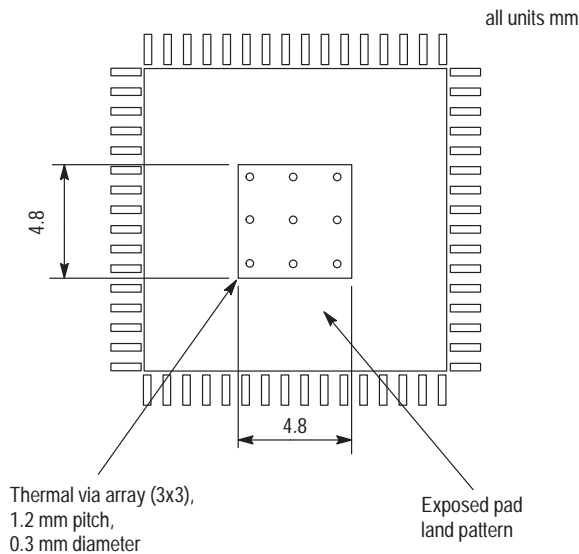

Figure 6. Recommended thermal land pattern
The MC100ES6221 uses a thermally enhanced exposed pad (EP) 52 lead LQFP package. The package is molded so that the leadframe is exposed at the surface of the package bottom side. The exposed metal pad will provide the low thermal impedance that supports the power consumption of the MC100ES6221 high-speed bipolar integrated circuit and eases the power management task for the system design. A thermal land pattern on the printed circuit board and thermal vias are recommended in order to take advantage of the enhanced thermal capabilities of the MC100ES6221. Direct soldering of the exposed pad to the thermal land will provide an efficient thermal path. In multilayer board designs, thermal vias thermally connect the exposed pad to internal copper planes. Number of vias, spacing, via diameters and land pattern design depend on the application and the amount of heat to be removed from the package. A nine thermal via array, arranged in a 3 x 3 array and using a 1.2 mm pitch in the center of the thermal land is a requirement for MC100ES6221 applications on multi-layer boards. The recommended thermal land design comprises a 3 x 3 thermal via array as shown in Figure 6. "Recommended thermal land pattern", providing an efficient heat removal path.